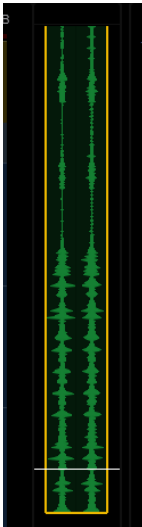

Figure 77. Indication of a clip targeted for editing
Clips are targeted for editing when they reach the playhead on the Display Modules when in any Waveform view as shown in Figure 77. Resolution of edits and moves using the **Sel** and **In** switches is determined by the Pro Tools Nudge value, which can also be adjusted directly from S6. Edits made by rotating S6 knobs use the current Knob Preference settings (see Knob Speed and Sensitivity).
- Cue the session so that a clip is in contact with the Display Module playhead. On the Display Module, a yellow border or bracket appears around any clip that is in contact with the playhead on a strip in Edit mode (see Figure 77).